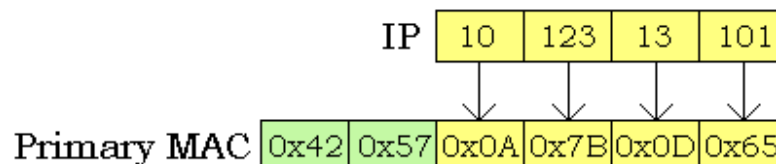

Figure 4. Auto MAC Mode
- In Auto mode the device automatically computes the primary MAC address from its IP address (figure 4). The first two bytes of the MAC address are constant 42:57 hexadecimal. The lower 4 bytes refer to the IPv4 address.